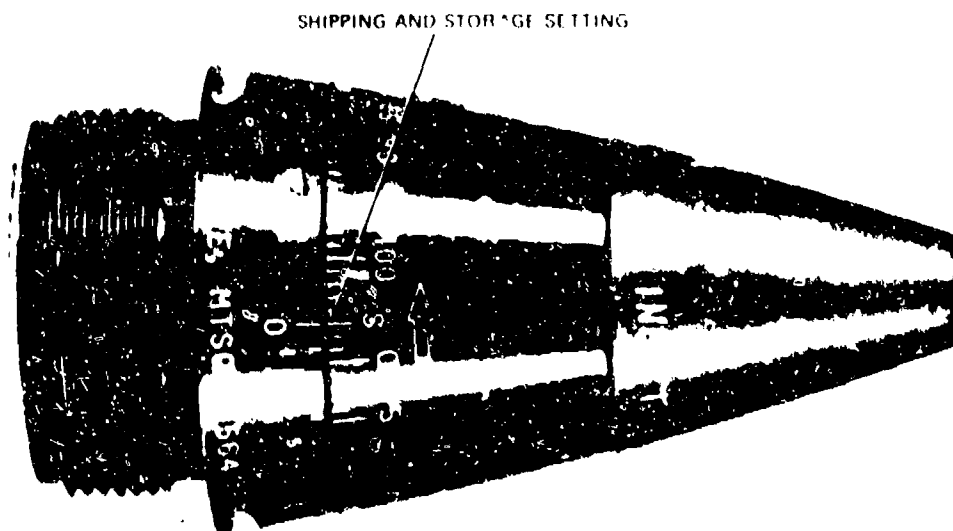

Figure 11-21. Fuze M564 mechanical time-superquick.
*c. M564 mechanical time-superquick fuze.* The M564 mechanical time-superquick fuze (fig 11-21) is intended for use with spin-stabilized burster projectiles in which mechanical time settings (from 2 to 100 seconds) or impact superquick functioning is desired. The M564 MTSQ fuze is designed to function either at a set time or upon impact, whichever occurs first after arming. However, the booster assembly prevents this fuze from arming for either action until the round has traveled a minimum distance of 200 feet from the weapon muzzle. The M564 fuze will replace the M520 fuze.